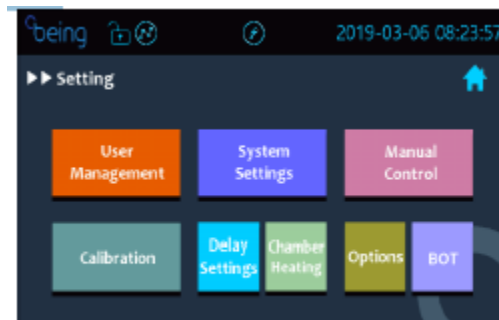

Figure 1-20
7. Touch the “Setting” button from the home page to enter the setting page, as shown in Figure 1-20.